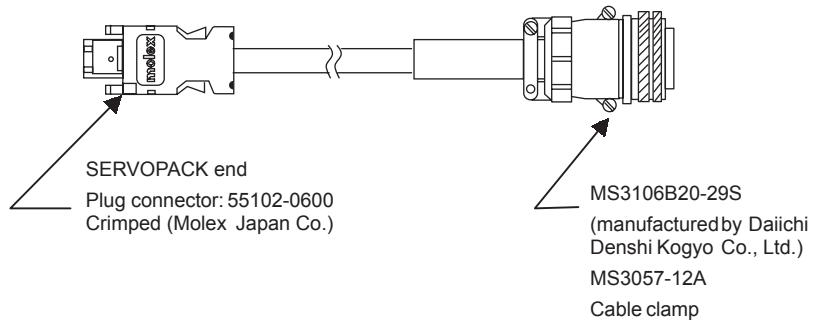
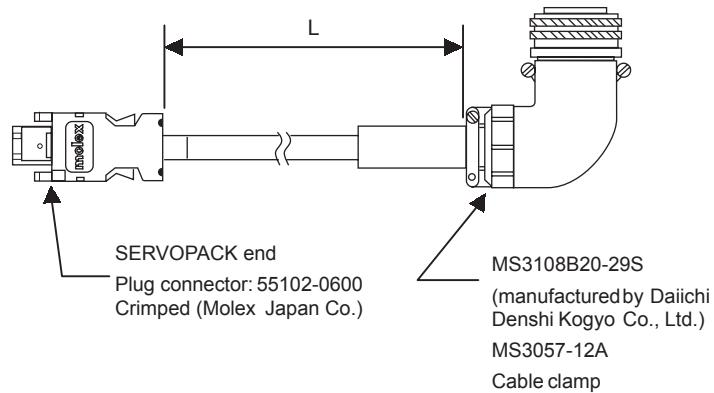

Fig. 7.7 SGMBH Servomotor Cables With Straight Plugs
Fig. 7.8 SGMBH Servomotor Cables With L-shaped Plugs
*Fig. 7.7 and Fig. 7.8 show cable dimensions.*